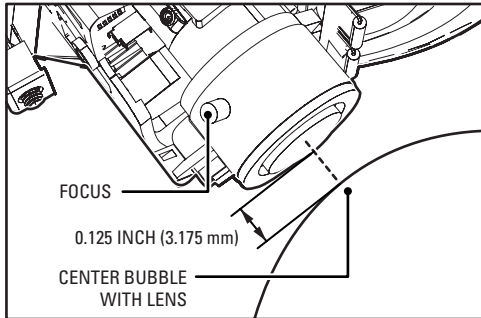

Figure 11. Adjusting the Focus
2. Position the inverted dome approximately 0.125 inch (3.175 mm) from the front of the lens. Make sure that the lens and the dome are centered (refer to Figure 11).